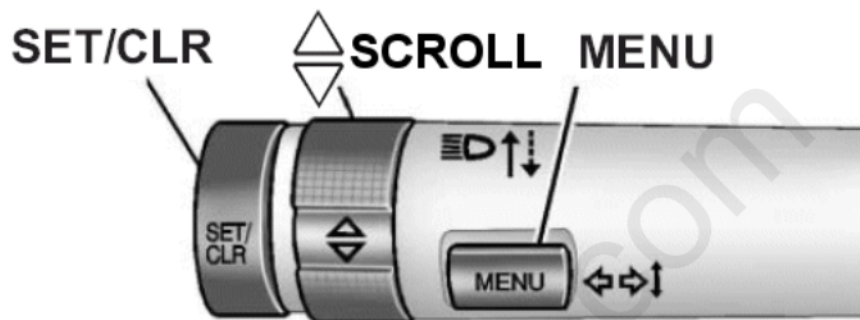

Fig. 8: Identifying DIC Controls (Turn Signal Lever)
4. Use the MENU button to select the VEHICLE INFORMATION MENU in the Driver Information Center (DIC). See Fig. 8.